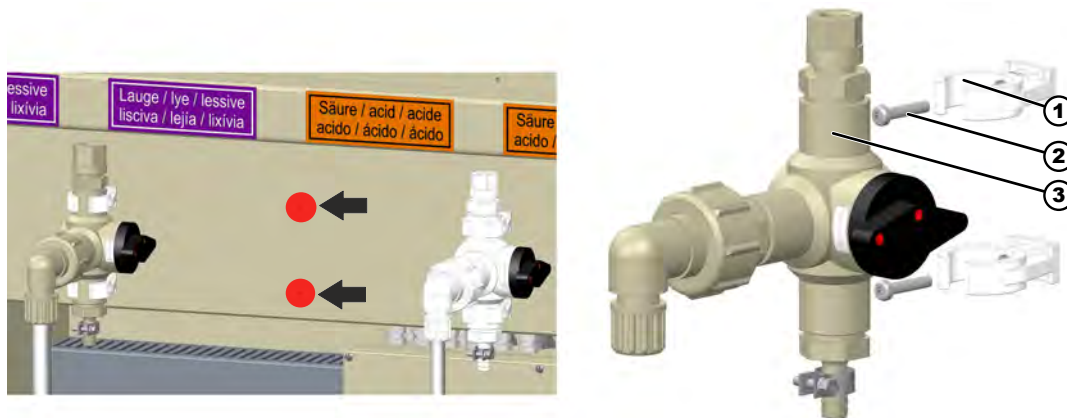

Fig. 11: Assembling the product sampling valve
1. ➤ Assemble both pipe clamps (no. 1) with screws (no. 2) in the intended position (Fig. 11, arrows) of the ELADOS Compact console.